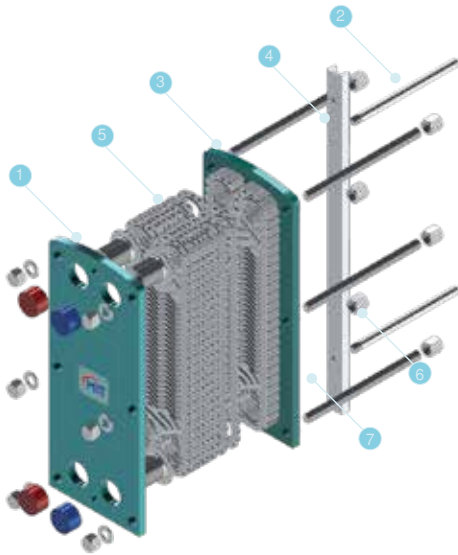

Figure 1.1
A plate heat exchanger, as seen in Figure 1-1, front and rear body, (1 and 3) gasketed plates, (5) upper and lower carrier rods (2 and 6) fixed with studs (7) or in some cases the last support element It is formed by connecting with (4).